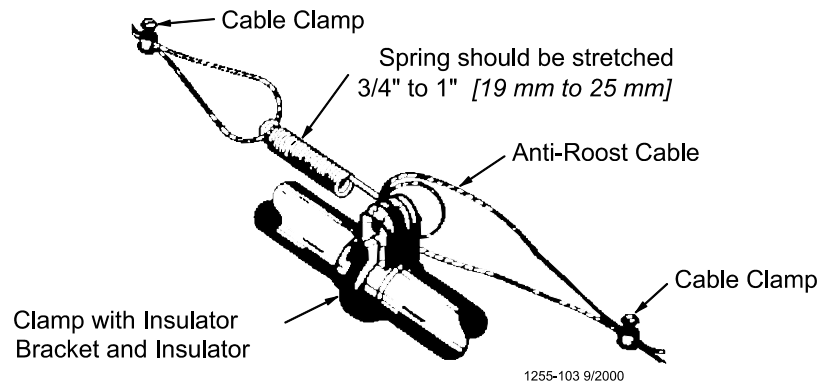

Figure 51. Anti-Roost Cable Mid-Line Connection
9. Attach a spring in the center groove at the second anti-roost bracket and cut the cable at this point. See **Figure 51.**
10. Thread the ends of the cable through the end of the spring. Pull the cable tight so that there is 3/4" to 1" [20 to 25 mm] of stretch in the spring. Clamp the cable to form a loop and cut off any excess. See **Figure 51.**
11. Attach the cable to the insulator. For best results, make a double loop around the anti-roost insulator in the center groove of the insulator and fasten with a 1/16" cable clamp as shown in **Figure 51.**